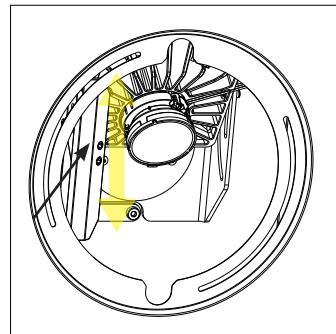

fig. 20 (tilt)
- Using the 4 mm hex tool use the tilt control to aim the emitter (see fig 20).